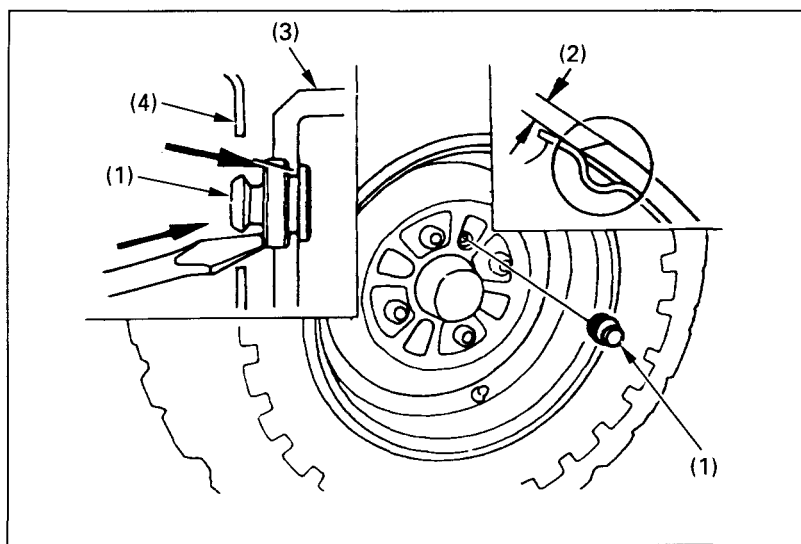
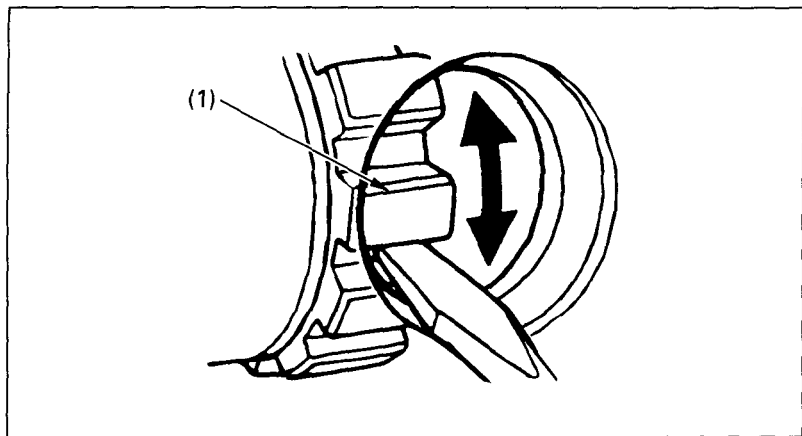

Fig. 4-21 (1) Inspection hole plug (3) Front brake drum
Fig. 4-22
(1) Front brake lever
2. Remove the inspection hole plug (Fig. 4-21) and measure the lining thickness (2) on both front wheels.
3. If the brake lever free play and the brake shoe lining thicknesses are within the recommended limits, reinstall the inspection hole plugs, seating them into the inspection holes as shown in Fig. 4-21.
3. Beginning with either the left or right front wheel, remove the inspection hole plug (Fig. 4-21) and line up the hole with one of the brake adjusters (Fig. 4-22).
4. Using a screwdriver, turn the brake shoe adjuster (1) in the direction of the arrow until the front brake locks.
(1) Brake adjuster
7. Reinstall the inspection hole plug, seating it into the inspection hole as shown in Fig. 4-21.